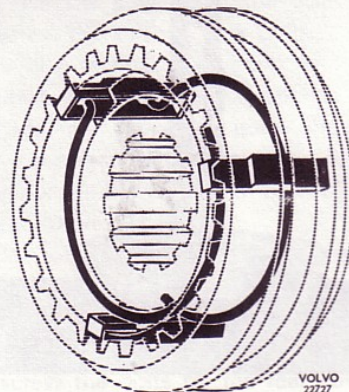
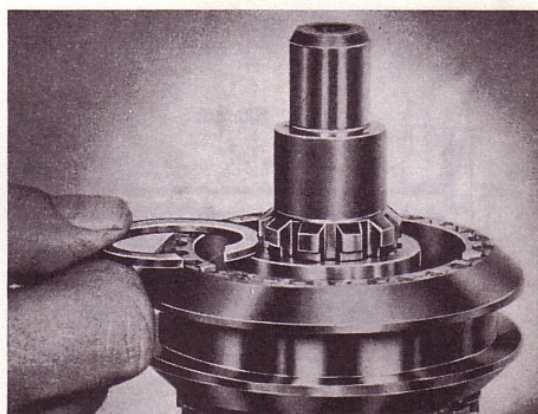

Fig. 25. Assembling synchronizer
Fig. 28. Trying out locking ring
3. Fit the parts for 1st speed and 2nd speed synchronizer on the main shaft. Fit the spring rings correctly, see Fig. 25.
6. Fit the thrust washer, 3rd speed gear wheel and synchronizing cone on the shaft. Assemble the 3rd and 4th speed synchronizing parts. Fit the spring rings correctly, see Fig. 25. Then fit the synchronizer on the main shaft. Select a locking ring of the correct thickness and fit it, see Fig. 28.